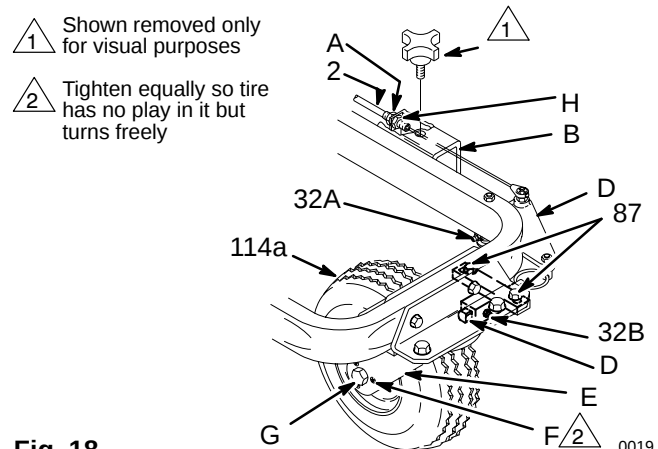

Fig. 18 0019
2. Even tension on the rear tire bearings (adjust nuts (10) as needed.) See page 40.
3. Even tightness of the caster screws (F). See Fig. 18.
Maintenance See Fig. 18
Caster Tire Replacement See Fig. 18.
Caster Cable Tension Adjustment See Fig. 18.
1. Loosen the two capscrews (87), grasp the tire and visually align it. Tighten the capscrews evenly. Move the unit forward. If the caster appears straight, start the unit (use water) and spray along a true straight line. Continue adjusting as necessary. See Fig. 18.